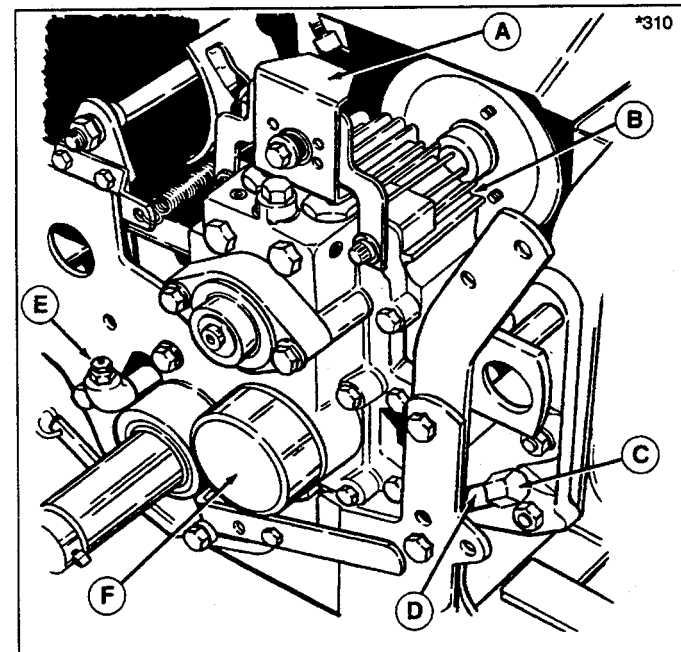
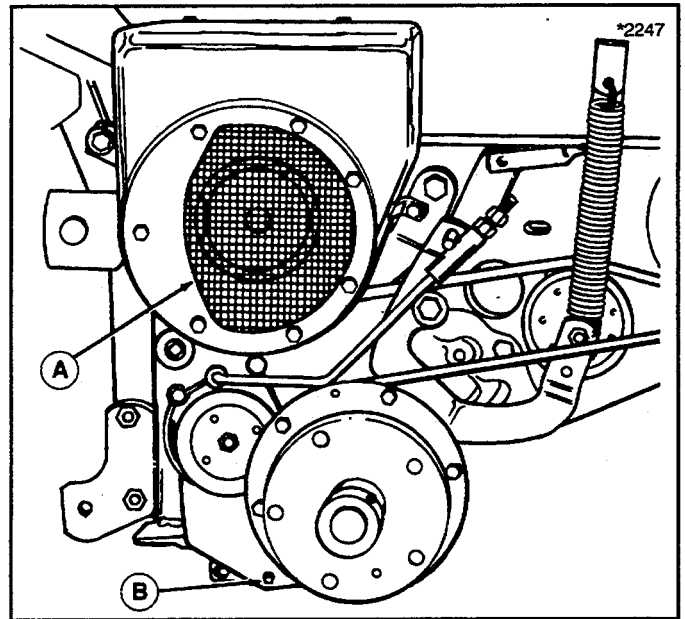

Figure 14. Hydrostatic Transmission
Figure 15. Hydrostatic Transmission
2. Wipe the transmission fill cap (C, figure 14) and fill tube (D) clean, then remove the cap.
3. Lift and hold the relief valve (E) open. Fluid should be at top of filler pipe. If not, add multi-purpose hydraulic transmission fluid oil. Relief valve must be held firmly up when adding oil.
NOTE: The filter is shown in figure 14. Replace the filter every 400 hours of operation or whenever changing transmission fluid. Transmission fluid should be changed only when performing repair work on transmission or hydrostatic unit, or if it becomes discolored from overheating.
2. Press transmission release lever (A, figure 14) down firmly to disengage the hydrostatic pump.
3. Remove hydrostatic transmission drain plug (B, figure 15) from lower right-hand side. Remove dirt from around the fill cap (C, figure 14) and loosen cap to permit air to enter transmission.
- Remove the fill cap (C, figure 14) and clean dirt away from relief valve (E). Using a clean funnel, add multi-purpose hydraulic transmission fluid into the fill tube while holding the relief valve up, until fill tube is full. Install fill tube and hand tighten.